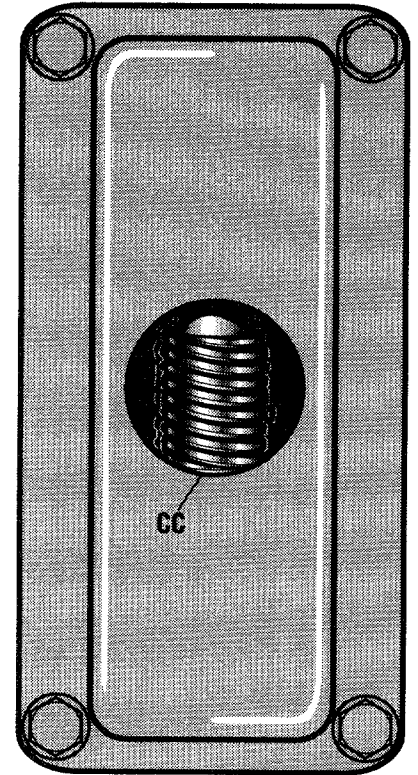

Fig. 2-10: Gear oil should be half way up sides of worm.
3. Inside the hole there is a grooved worm (CC, Fig. 2-10) on the drive shaft. If the gear oil level is correct, the gear oil should be approximately half way up the sides of the worm.